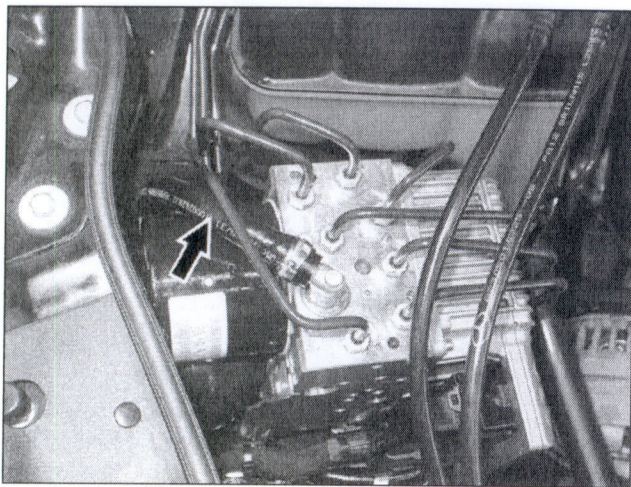

Figure 5
- If new version (rubber) hose (arrow, Figure 5) is installed, skip ahead to step 10.